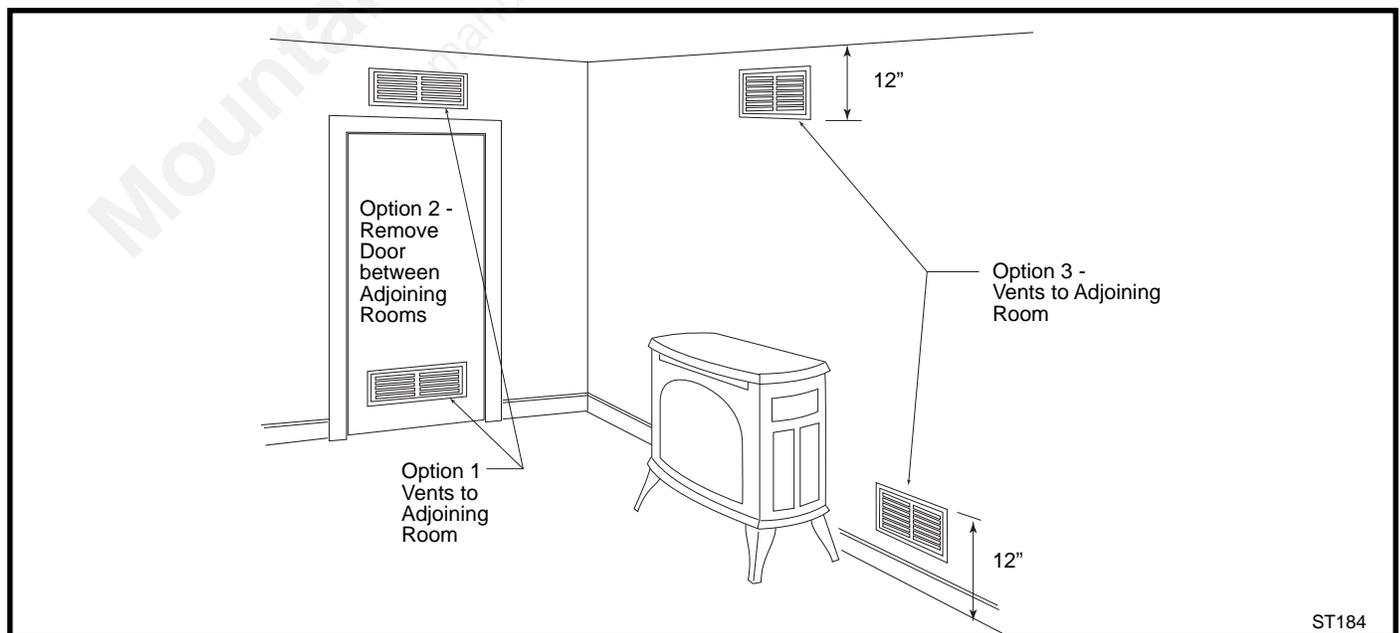

Fig. 4 Vent options to provide additional air.
A) Open up or provide at least two ventilating grilles to an adjoining unconfined space. Use any of the options illustrated in Figure 4.